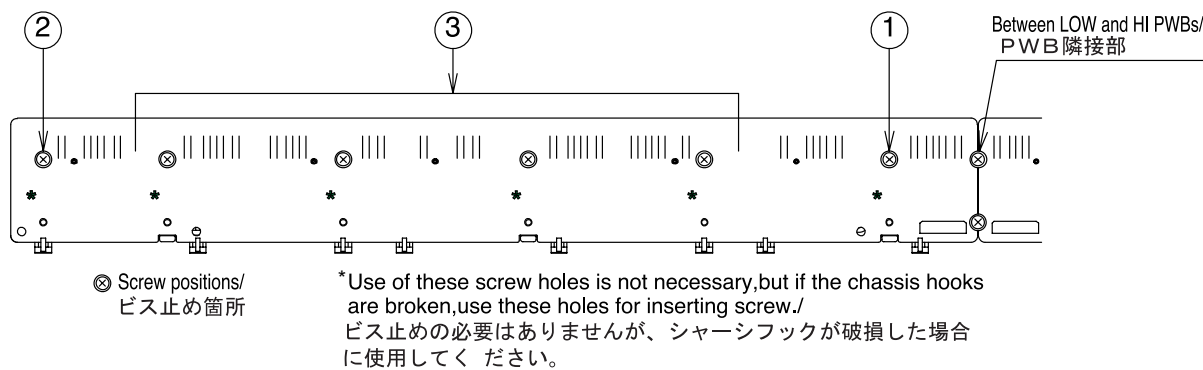

Fig.5
3) Then, using the screws, fasten the LOW and HI PCBs to the chassis from the center of the keyboard, that is, from the LOW PCB as shown in fig.5. While you are screwing down the PCB, it may float from the chassis. To avoid this, after screwing in the PCB at the center of the keyboard, screw down opposite end, before screwing in other areas in the middle of the PCB. (See fig.5) In addition, the PCBs may be warped by soldering, etc. It is recommended that each PCB be fastened screws while holding down the middle of the PCB lightly. Finally, screw down the adjacent area between the LOW and HI PCBs.
3) ビスは、PWB LOW、HI ともに鍵盤中央部 1 より 2、3 の順に取り付けてください (Fig.5 参照)。基板がハンダ付け等によってソリを生じていることがあるため、中央部を軽く押さえながらビス止めするとよいでしょう。最後に PWB 隣接部をビス止めします。